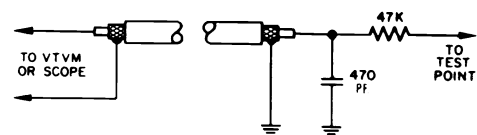

Figure 7 - Decoupling Network
**Oscilloscope and VTVM** — Use a low-capacitance direct probe terminated with the decoupling network shown in Figure 7. Keep the oscilloscope calibrated for 2 volts peak to peak (P-P). Use a VTVM range suitable for measuring -1.5 volts.